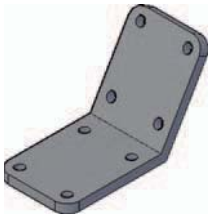

Fig. 17.6 First example – changing UCS planes
First example – changing UCS planes (Fig. 17.6)
10. Place the 3D model in a **ViewCube/Isometric** view and set in the **Home/View/Conceptual** visual style (Fig. 17.6).